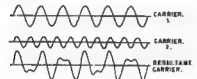

Fig. 7—The combination of two carriers to form a resultant which is amplitude and phase-modulated.
Consider two carrier waves slightly different in amplitude and frequency. The resultant of these two waves is shown in Fig. 7. There are two types of variation in this signal as compared to carrier 1. They are: (1) amplitude, (2) phase.